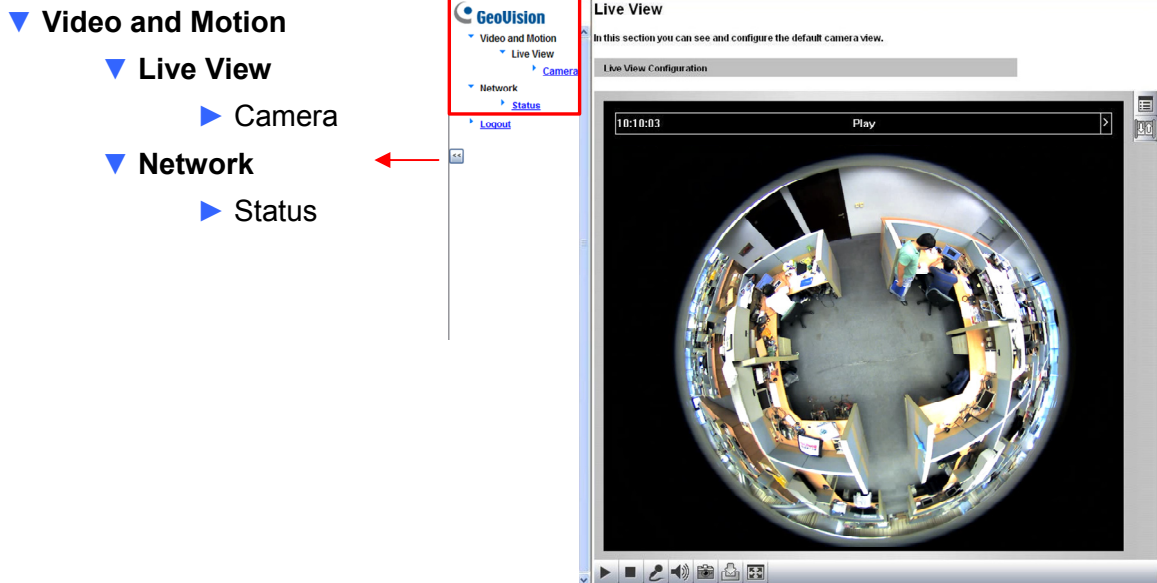

Figure 3-2
4. A video image, similar to the example in Figure 3-2, is now displayed in your browser.
The camera can process one video stream in two different codec and image settings. In the Administrator mode, both streams are available. Click **Streaming 1** or **Streaming 2** in the left menu to access the live view. In the Guest mode, only one stream is available, as shown in *Figure 3-2*.